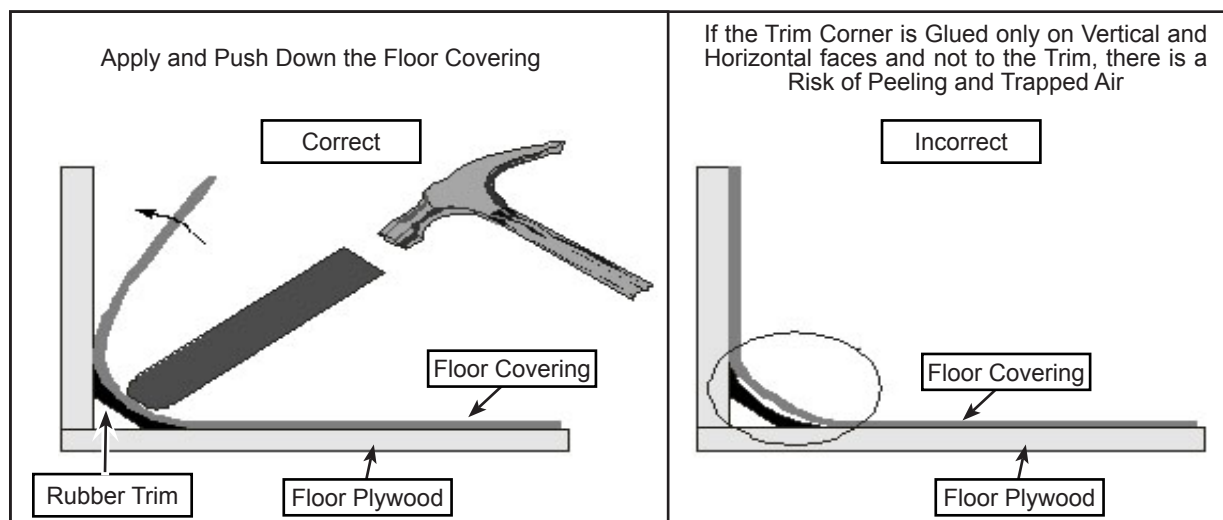

Figure 15 - Technique for Gluing Inside Corners
- 2.54. Glue the floor covering around the wheel house using a hammer and a wood block (see Figure 15).